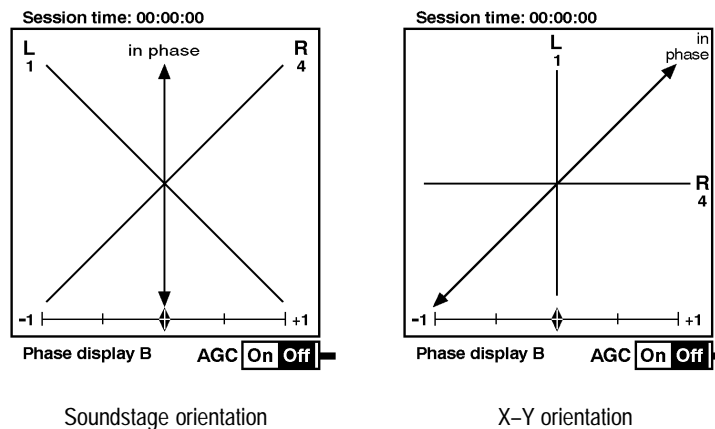

Figure 2–22: Phase display B with channels 1 and 4 paired
7. Press the **CLEAR MENU** button to exit the on-screen menus. Select **VIEW:AUDIO** and **PHASE DISPLAY:B** and confirm that the labels on the ends of the left and right axes of the Lissajous graticule read L1 and R4 respectively, as shown in Figure 2–22.